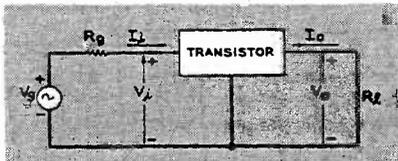

Fig. 1. The single-stage AC quantities.
Using a 30-foot length of No. 14 wire hung in the attic, for an antenna, and a water-pipe ground, current readings up to 200 μa were indicated by the microammeter at this location. The polarities are as shown in Fig. 1; if the diode connections are reversed, the output-voltage polarity will be reversed. With a pair of high-impedance headphones in place of R1, current readings up to 116 μa were obtained and, of course, the audio modulation signal could be heard in the phones. Since for this purpose the audio component was not desired, it was bypassed with a large capacitor across the output, as shown in Fig. 1C. The larger this capacitor, the more effective is the audio suppression. A 1- μfd capacitor did a good job. A 2,200-ohm resistor is shown in Fig. 1C as a load resistor in place
Fig. 1 shows what we call an ideal transistor stage. It consists of a transistor, a source with an internal resistance, and a load resistance. In general, any audio amplifier stage can be reduced for the purposes of AC signal calculations to the form of Fig. 1. Later on we will see how this is done.
Since Fig. 1 can be obtained from virtually any transistor stage, it should be obvious that, if we solve for the important quantities completely in Fig. 1, then in a sense we have solved all transistor audio amplifier stages. It will only be necessary to reduce the diagram to the form of Fig. 1, and use the formulas presented below. Usually this method is the easiest to use in designing audio amplifiers, although it will not work in all cases.*
Fig. 1 shows the transistor with a general voltage source and a load. The input and output voltages and currents are assumed from now on to be in the directions indicated. The current gain A_i is defined as the ratio of output current to input current, I_o/I_i . The voltage gain A_v is defined as the ratio of the output voltage to the input voltage, or V_o/V_i .
*Sometimes it is not possible to reduce the circuit to the form of Fig. 1—when single-stage feedback is used, for example. Also, if there are frequency-compensating networks in the stage, it is best to go back to the equivalent circuit, rather than to try to use this analysis.